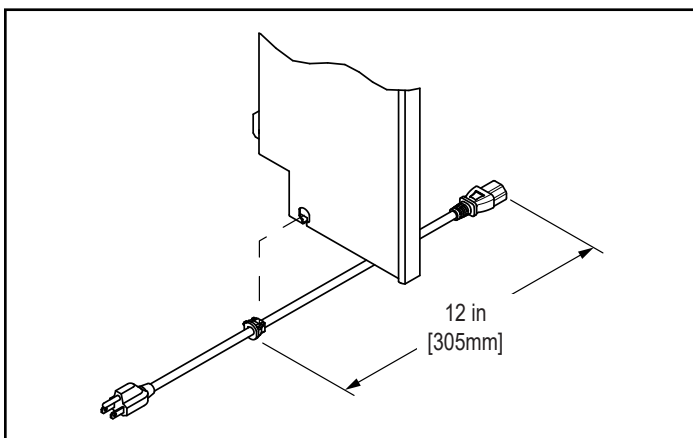

Figure 22.1
- **If power enters the appliance on the right side:** Using the pliers, attach cord restraint 12 inches from the female end of the cord and then press into the right side panel (**Figure 22.1**).